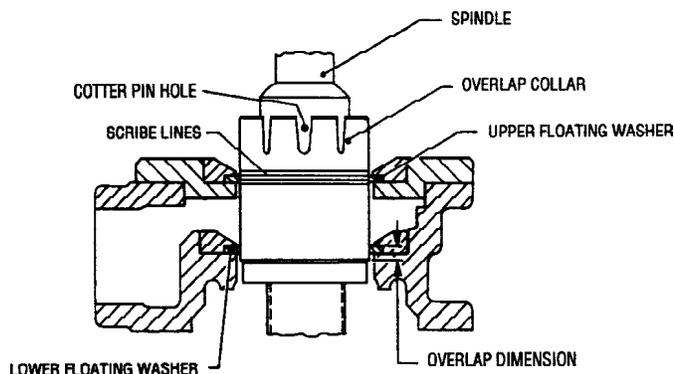

FIGURE 12
8. Remove the overlap collar cotter pin from the collar and spindle assembly. Note which overlap collar notch is opposite the cotter pin hole in the spindle. (See Figure 12, below.) Carefully counting each collar notch that passes in front of the cotter pin hole in the spindle, begin rotating the collar counterclockwise until the bottom line (of the four lines) on the collar is even with the upper floating washer. Record the number of overlap collar notches that passed in front of the cotter pin hole in the spindle, as this information will be required to correctly re-assemble the valve.